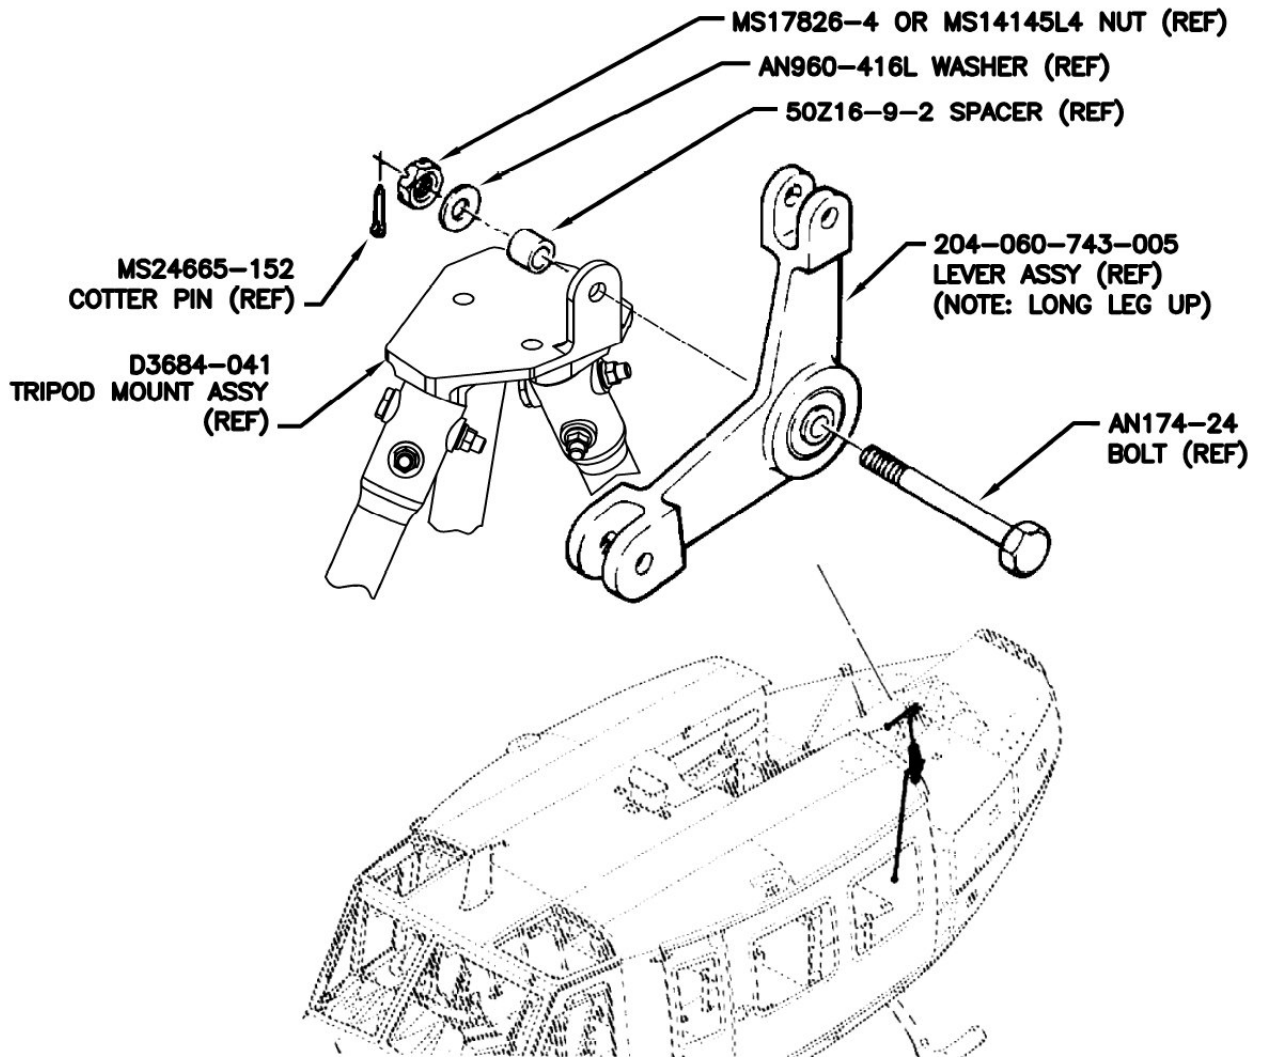

Figure 71-11. 204-060-743-005 Lever Assembly Installation Detail
71.3.1.1.4 Remove the 204-060-743-005 lever assembly from the D3684-041 mount assembly. Reference Figure 71-11.
71.3.1.3.8 Install 204-060-743-005 lever assembly on D3684-041 mount. See Figure 71-11.